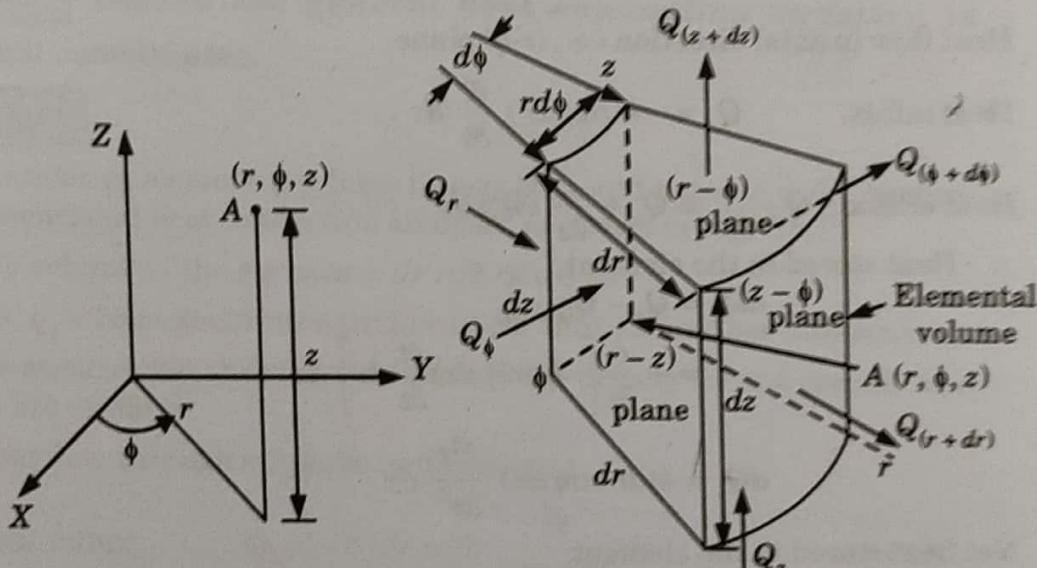

Fig. 1.7.1. Elemental volume for three-dimensional heat conduction analysis-cylindrical coordinates.
- Consider an elemental volume having the coordinate (r, ϕ, z) for three dimensional heat conduction analysis as shown in Fig. 1.7.1.